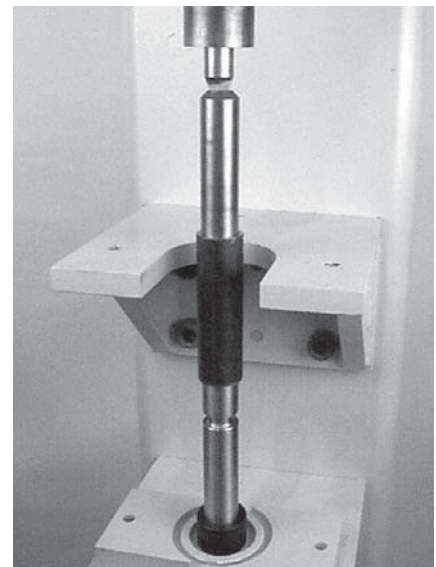

Figure 47
- Using arbor press or similar device, press bearing onto pulley shaft (Figure 47).